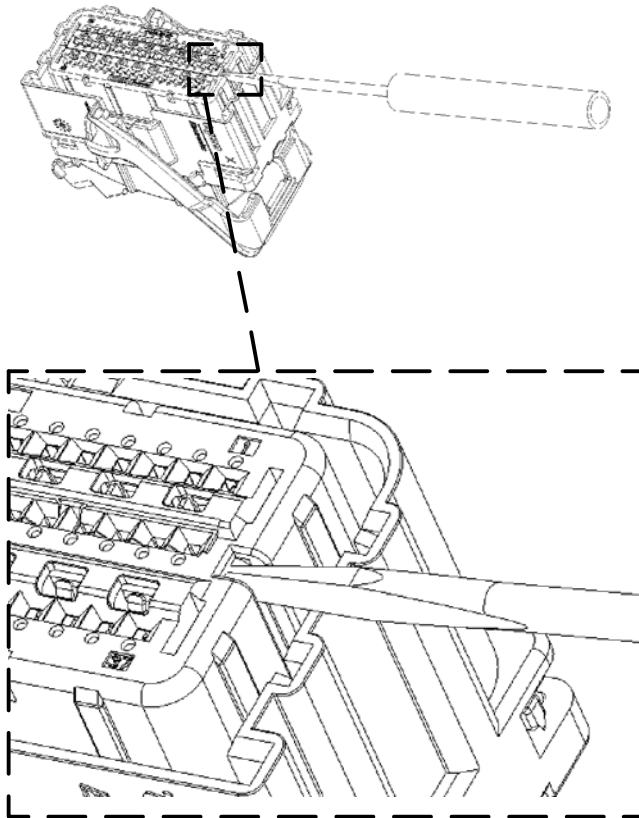

Figure 11
1. Insert a jeweler's screwdriver (flat-bladed 2.0 to 2.4 mm [.079 to .094 in.] screwdriver) into the side slot in the TPA lock as shown in Figure 11.